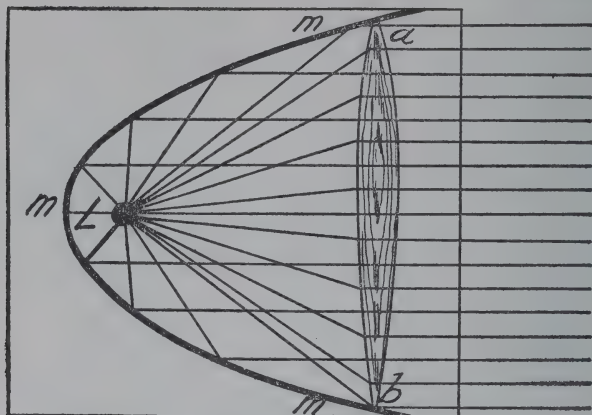

Fig. 103
24. *Search-Light*.—(Fig. 102). This is simply an arc lamp with reflectors behind it and lenses in front of it. The whole apparatus is pivoted so as to be easily made to shine in any direction. The function of the lenses and the reflectors is to collect stray rays of light and send them all out in the same direction. This is shown in Fig. 103 where for simplicity the lens is represented as a single piece. L represents a point of light which will naturally send its rays out in all directions as the radii of a sphere; m, m, m represents a bright reflecting surface which is given that peculiar curve called a parabola. It has the
light, since if dry cells are required to furnish half an ampere continuously they soon run down. Behind the lamp there was a bright metal reflector — the lens and reflector are fairly well represented in Fig. 103. The filament of the lamp is connected with two small battery cells in the handle. These may be removed and replaced by new ones by unscrewing a cap at the right-hand end. The circuit is closed by a metal spring on the side of the tube, which acts as a push button. It is situated where it may be conveniently pressed by the thumb. The small batteries necessarily have a short life and must be replaced quite frequently. Being a special thing they cost nearly twice what the regular dry cell does.